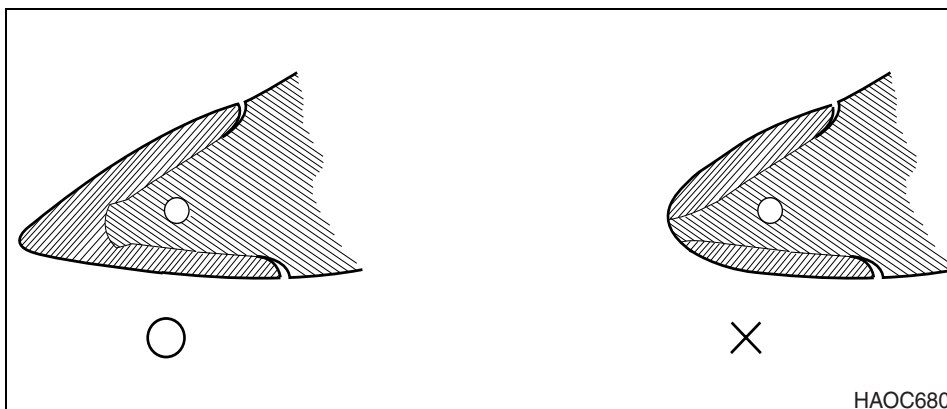

Figure 4
1. On a routine basis, inspect the bucket teeth to make sure that tooth wear or breakage has not developed. Do not allow the replaceable bucket teeth to wear down to the point that the bucket adapter is exposed. See Figure 4.